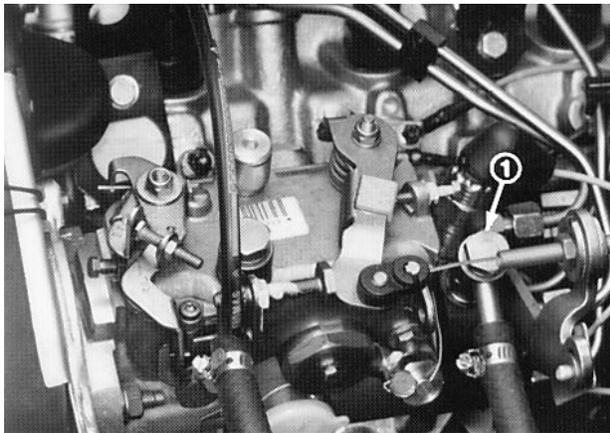

Figure 15
**Note:** It may be necessary to bleed the air out of the fuel line between the fuel filter/water separator and the injection pump. To do this, loosen the fitting on the injection pump (Fig. 15) and repeat the bleeding procedure.